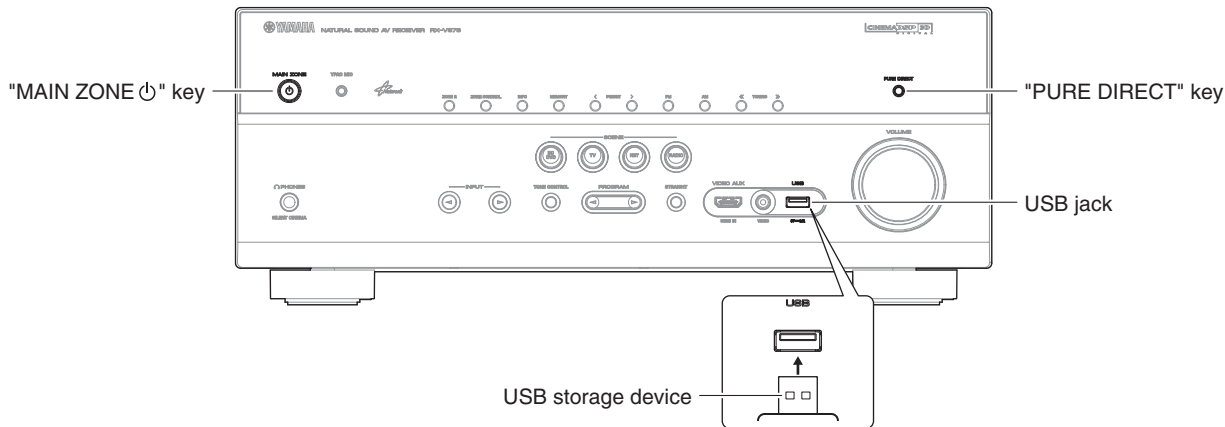

Fig. 1
1. Insert the USB storage device to the USB jack. (Fig. 1)
2. While pressing the “PURE DIRECT” key, connect the power cable to the AC outlet. (Fig. 1)
5. Press the “MAIN ZONE” key to turn off the power. (Fig. 1)
6. Remove the USB storage device from the USB jack. (Fig. 1)